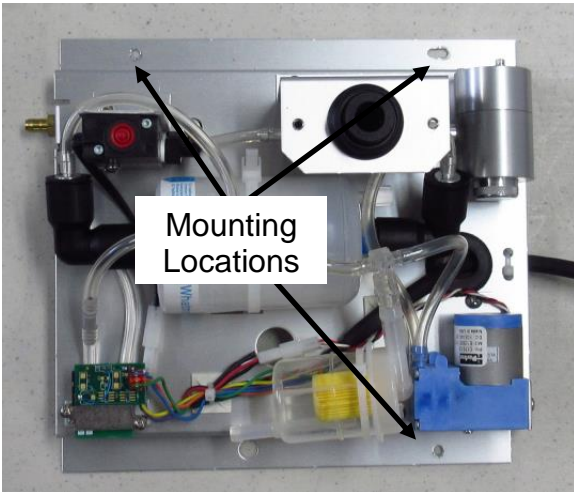

Figure 2-8 Dilution Flow System Mounting Screw Locations
- c. Align the mounting holes and install the three mounting screws (**Figure 2-8**) to secure the assembly to the main body of the monitor.